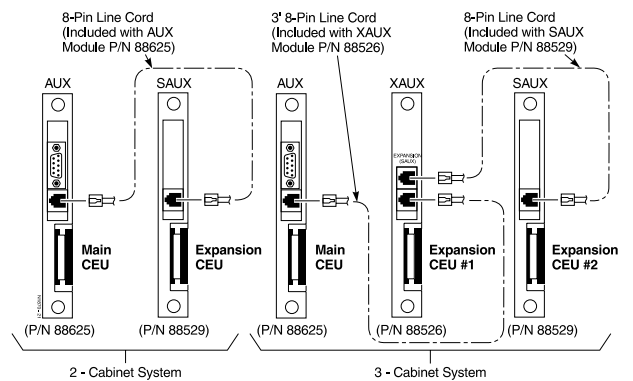

FIGURE 10
1. Install line cords. Two CEU's: AUX-SAUX 6' line cord; three CEU's: AUX-XAUX 3' line cord & XAUX-SAUX 6' line cord. See Figure 10.